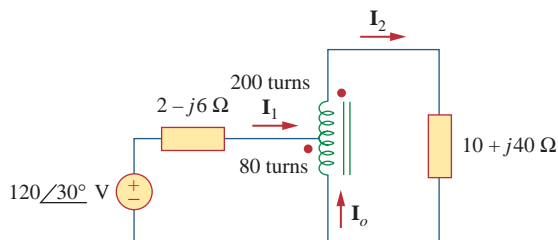

Figure 13.131
13.68 In the ideal autotransformer of Fig. 13.131, calculate \mathbf{I}_1 , \mathbf{I}_2 , and \mathbf{I}_o . Find the average power delivered to the load.